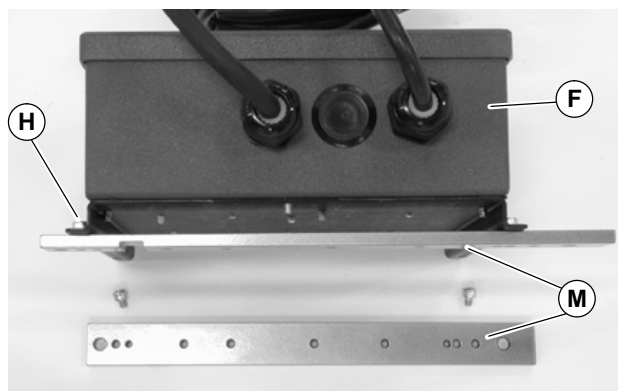

Figure 13
1. Attach mounting bars (M of Figure 13) to controller (F) with screws (H).